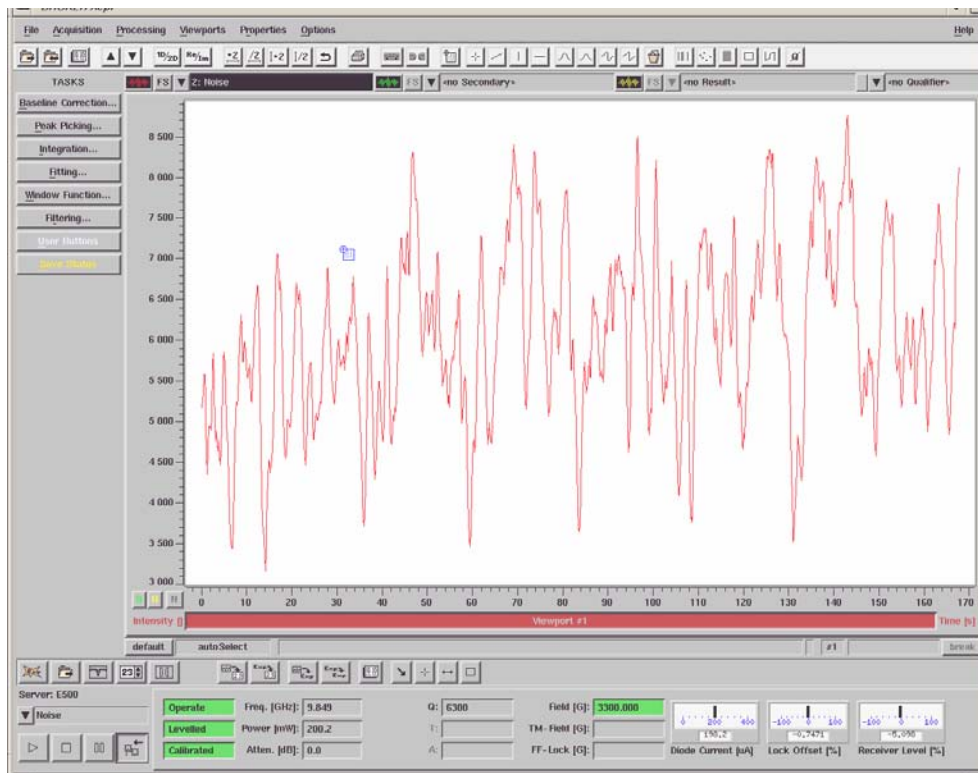

Figure 3-15 Acquiring a noise spectrum.
9. **Acquire a noise spectrum.** Click the RUN button in the acquisition tool bar and acquire the noise spectrum again. (See Figure 3-15.) If there is no baseline drift, store the spectrum and continue to the next section. If there is drift, wait a bit longer and run the noise trace again.